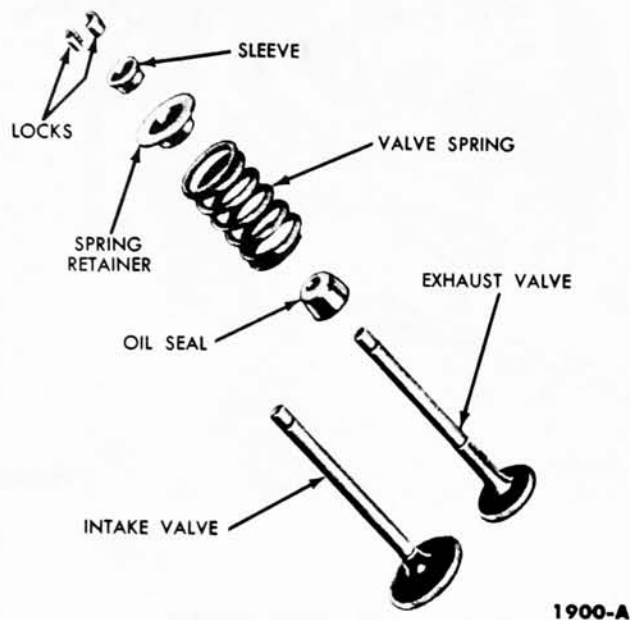

FIG. 25—Valve Assembly
1. Install each valve (Fig. 25) in the guide from which it was removed or to which it was fitted. Install a new stem seal on the valve.